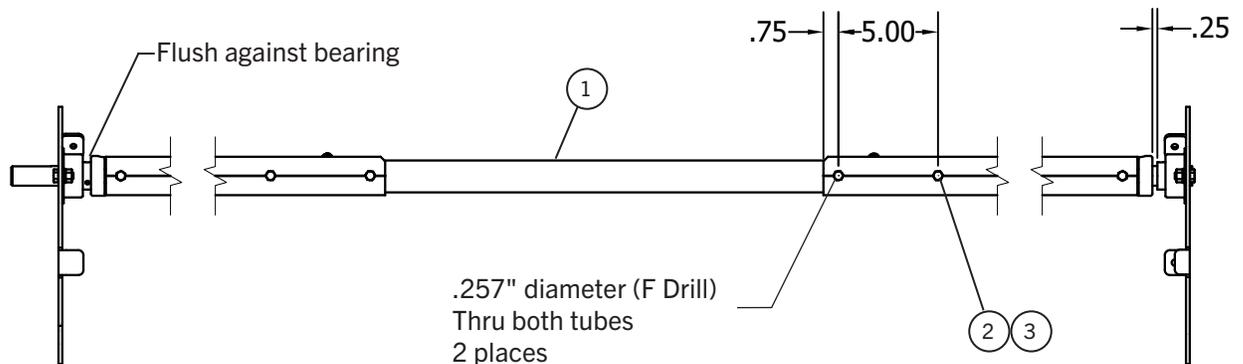

Figure 10-1
- 4) **Figure 10-1.** With passenger's end of roll up bar within 1/4" - 1/2" of bearing drill two .257" (F drill) holes thru both tubes as shown.